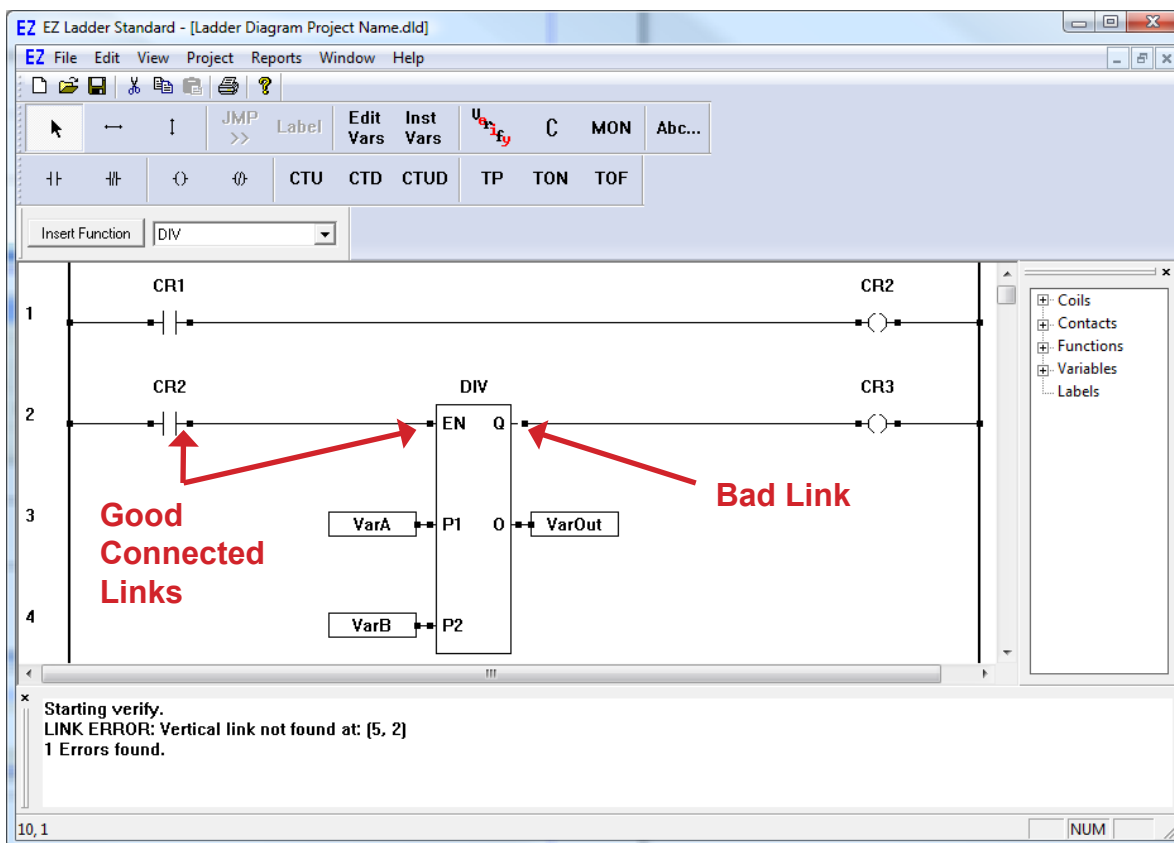

Figure 5-8
**!** Horizontal and Vertical links snap to grid locations and can only be started and stopped at one of these locations. Take care when connecting links to objects and function blocks that the link actually connects to the block and not just near it. If a link does not connect, then an error will occur when Verifying or Compiling the ladder diagram project. Figure 5-8 shows a connected link and a link that is not connected.